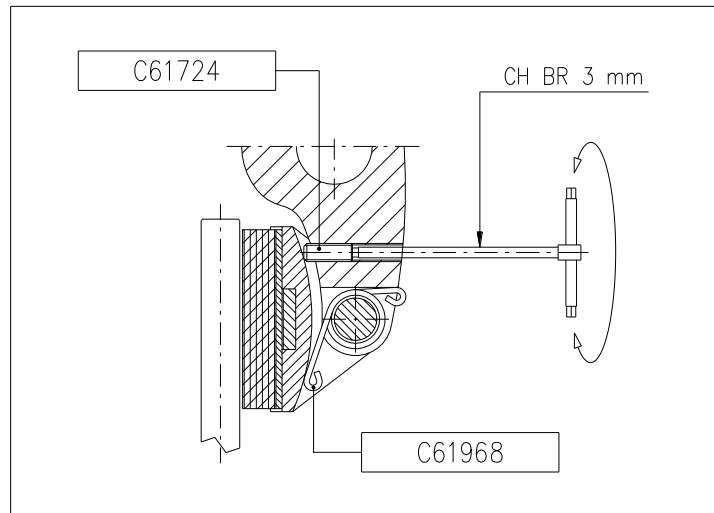

Figure 2
- Adjust the brake shoes using the grub screw C61724 rotating it in the appropriate direction with a n. 3 Allen key; the friction surface of the brake linings must be parallel to the surface of the disc (Figure 2).
6. Reassemble the shoe following the sequence in point 2 in reverse order, positioning the shoe alignment spring C61968 as indicated in Figure 2.
3. Remove the shoe alignment spring C61968 from its seat and replace it with a new one positioning it as shown in Figure 2.